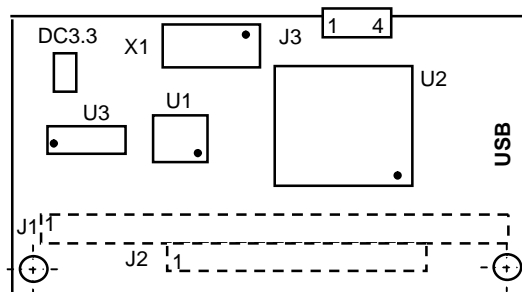

Figure A.5 – Arrangement of USB Card Elements
11.1.5.1 Arrangement of the elements of the **USB** card (NC210-29) is shown in Figure A.5.